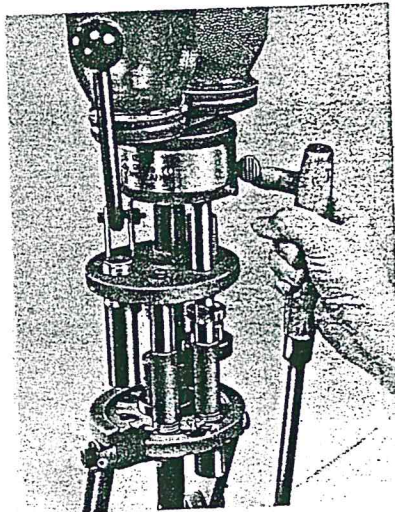
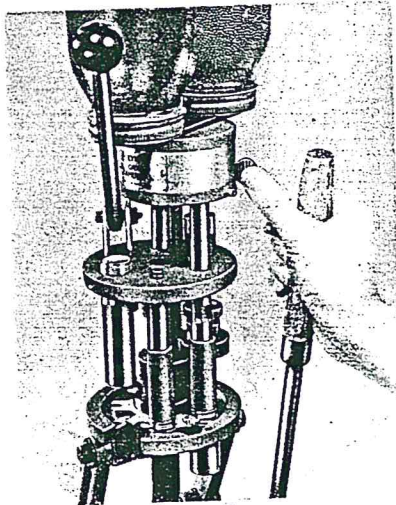
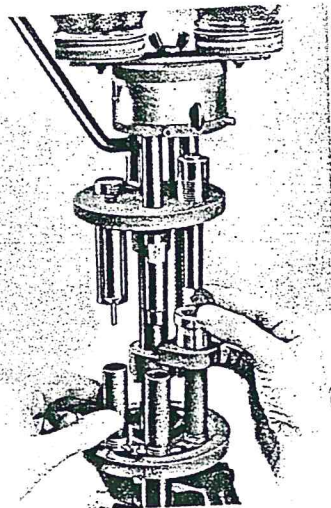

Fig. 4
Fig. 5
Fig. 6
3. This time, as you grasp Operating Handle, extend forefinger as in Figure 4. Extended forefinger will engage Powder Measure Lever as you stroke with Operating Handle, preparatory to throwing powder charge into shell. Grasp Operating Handle and perform this step. At forward-stop position of Operating Handle, retract forefinger, and extend thumb. (Figure 5). It will return the Powder-measure lever to normal position charging case with Powder as Operating Handle is retracted. With this second stroke of the Operating Handle, you have Primed and Loaded empty shell case No. 1, and have Decapped empty shell case No. 2.
4. Enter empty shell case No. 3 into rotating shell holder exactly as in steps 1 and 2. Advance one click-stop, insert Primer into Primer Opening in rotating shell holder. NOW . . . set wads into Wad Holder beneath Position 3 of Press. (Figure 6) Extend forefinger to engage Powder-measure lever as in Figure 4, and thrust Operating Lever downward steadily but firmly, raising Index Base to Positive Stop position each time! With this stroke, you seated wads AT PRECISE PRE-SELECTED - PRESSURE in shell 1, Primed and Loaded shell 2, and Decapped shell 1 ALL WITH SAME DOWNWARD